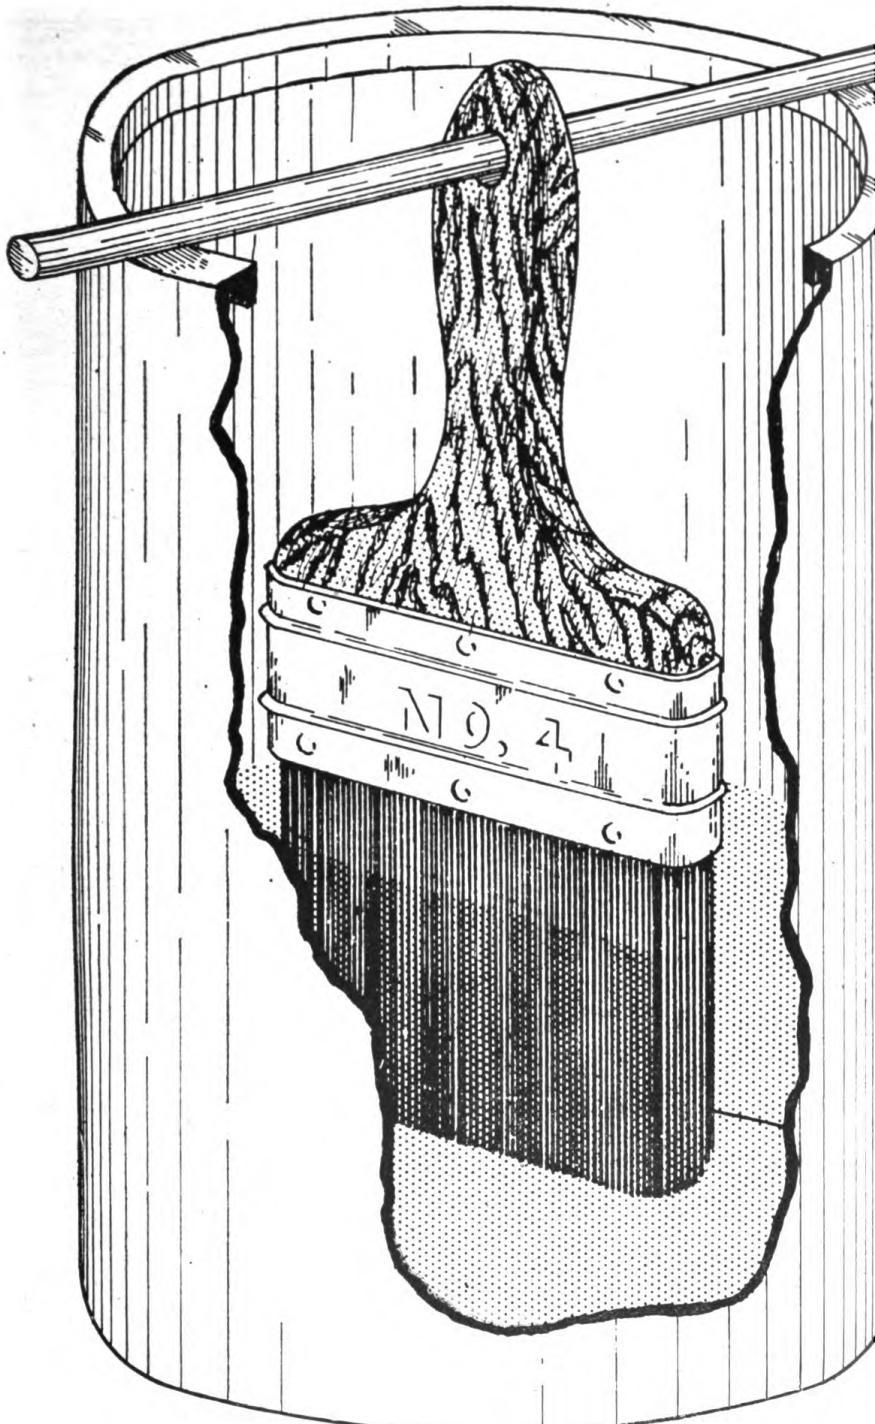

Figure 160. Container for brush.
e. BRUSH. The use of a brush is familiar to everyone. However, the life of many brushes is materially shortened by allowing dope and paint to dry on them. A brush that is used frequently may be kept in a sealed can of solvent when not in use. It should not be allowed to rest on its bristles but should be supported by the handle so that the bristles are just off the bottom of the container. (See fig. 160.) If a brush is used only infrequently, it should be thoroughly cleaned after each use. This may be accomplished by first cleaning with the proper solvent and then scrubbing the brush with soap and water. After scrubbing, the brush should be rinsed with clear water. If any odor of the solvent can be detected after rinsing, it should be rewashed.